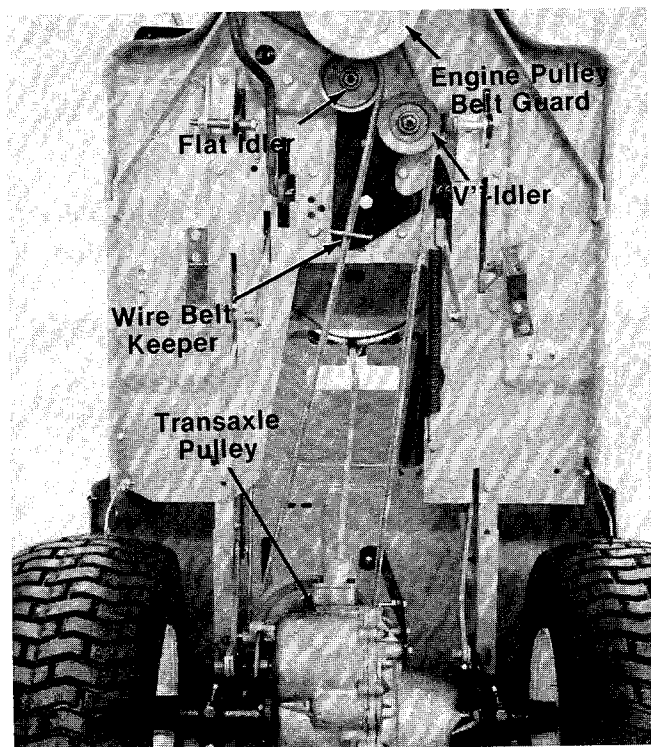

FIGURE 36.
9. Remove the engine belt guard by removing the two front engine mounting bolts. (See figure 36.)
10. Remove the wire belt keeper on frame. (See figure 36.)